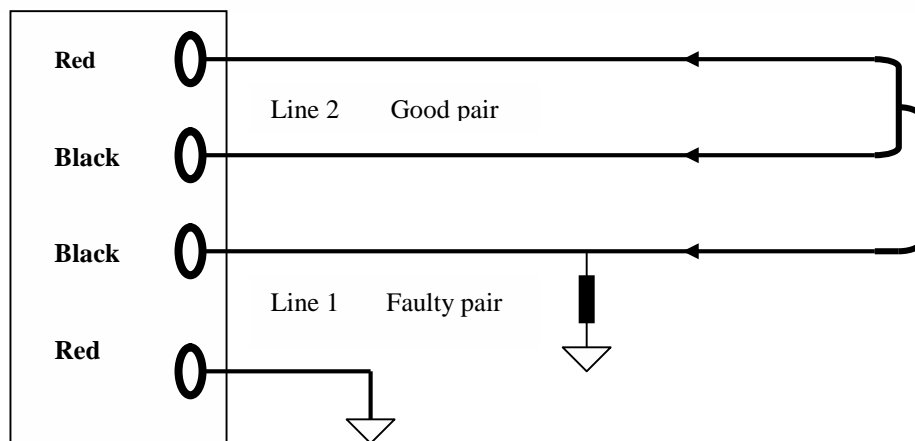

Figure no.2
8. If fault is between limb to earth the red terminal should be connected to earth as per the connection Fig no.2 below